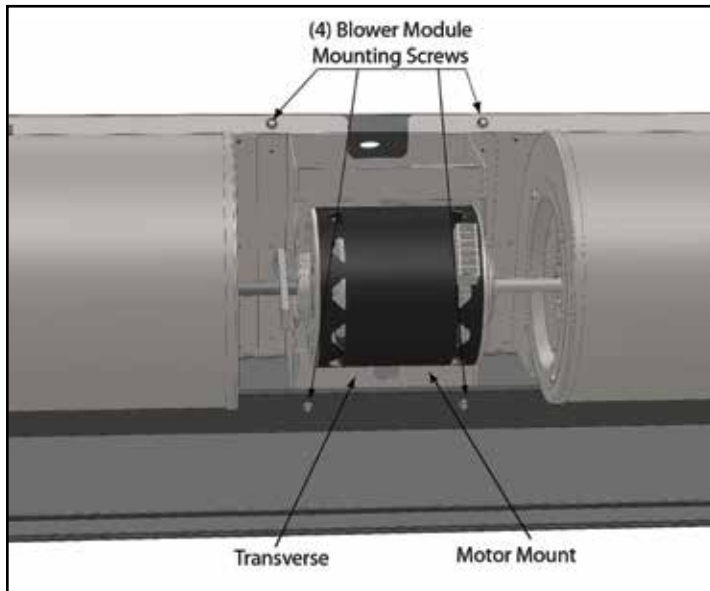

FIGURE 12 - Location of screws
4. Removing the blower module requires removing (4) #12 self-drilling sheet metal screws. Using a 5/16" hex driver, first remove the (2) screws that go through the Transverse into the Motor Mount. **See Figure 12.**
5. After removing the (2) screws in this step, the approximately 40 lbs. module will be free to drop down out of
the unit. While holding the module in place by pushing up onto the motor, remove the top, final (2) screws that go through the Blower Plate into the Main Channel. **See Figure 12.**